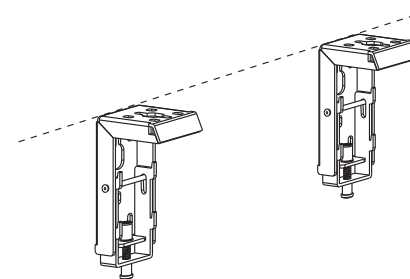

Figure 1
2. Ensure the brackets are horizontal and near the ends of the casing. Fasten to the wall or ceiling, not both. ( Figure 1 ).